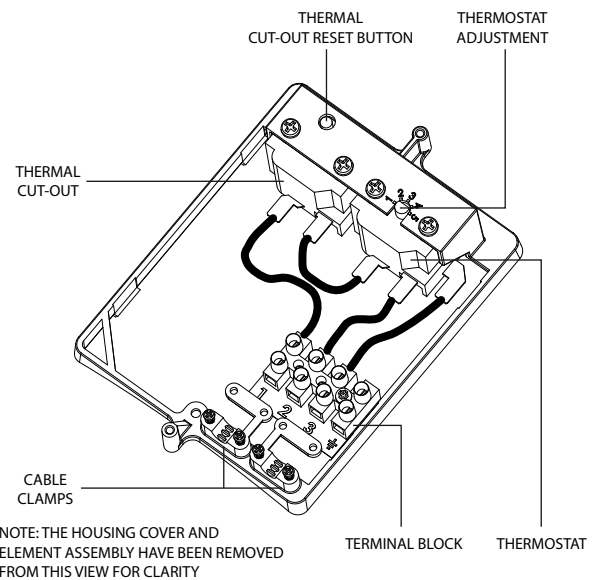

Fig. 10: Indirect thermostat and thermal cut-out
Fill the indirect (primary) circuit following the boiler manufacturer's commissioning instructions. To ensure the POTTERTON GOLD cylinder primary heat exchanger is filled, the 2 port motorised valve (supplied) should be manually opened by moving the lever on the motor housing to the MANUAL setting. When the primary circuit is full return the lever to the AUTOMATIC position. Switch on the boiler, ensure the programmer is set to Domestic Hot Water and allow the POTTERTON GOLD cylinder to heat up to a normal working temperature (60°C recommended, approximately graduation 4 on the thermostat). If necessary the temperature can be adjusted by inserting a flat bladed screwdriver in the adjustment knob (located on top of the thermostat mounting bracket - see Fig.10 Page 13) and rotating. The minimum thermostat setting is 10°C. The adjustment range 1 to 5 represents a temperature range of 30° to 70°C. Check the operation of the indirect thermostat and 2 port motorised valve and that no water has issued from the expansion relief valve or temperature/pressure relief valve during the heating cycle.
5. INDIRECT thermal cut-out has operated.	5. Check. Reset by pushing button on cut-out. (Fig. 10 Page 13). Check operation of indirect thermostat.